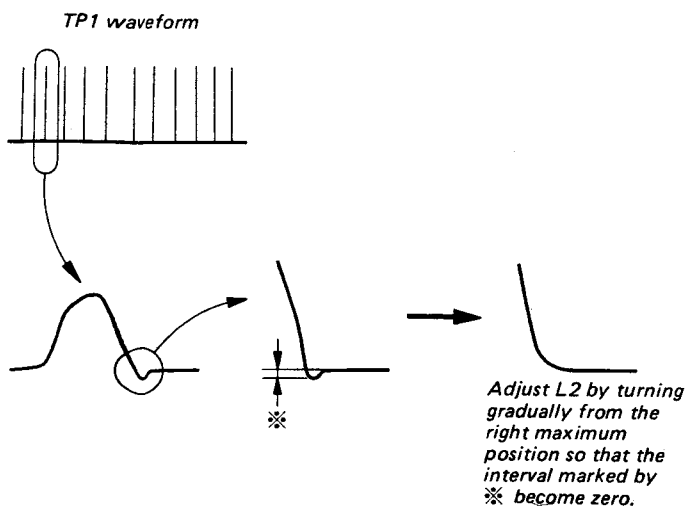

Fig. 5-147.
4. Turn L2 fully clockwise, turn it gradually counterclockwise, and set it at the point where the falling hump of the pulse waveform vanishes. (See Fig. 5-147.)